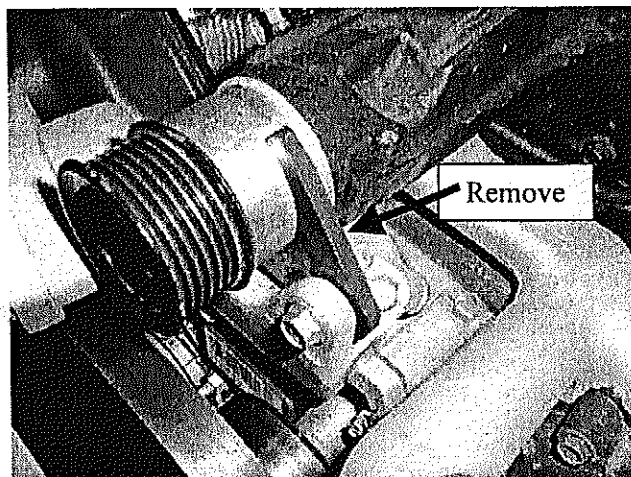

Figure 10
17. If the supercharger is equipped with a nose drive support bracket, remove it now (Figure 10).